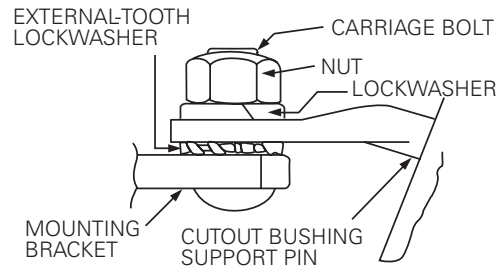

Figure 2. Mounting the cutout to the mounting bracket
2. **Mount the cutout on the mounting bracket** making sure the external-tooth lockwasher is placed between the mounting bracket and the cutout bushing support pin (See **Figure 2**). Tighten the nut by hand.